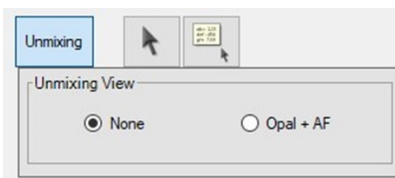

Figure 3.35. Unmixing View editor.
- **Opal + AF:** The image is shown as unmixed components using synthetic Opal® spectra. By using a representative autofluorescence (AF) from an unstained human tonsil section, PhenoChart can provide a preview of signal and autofluorescence isolation. Unmixing does not alter the underlying data in any way. (See Figure 3.35.)